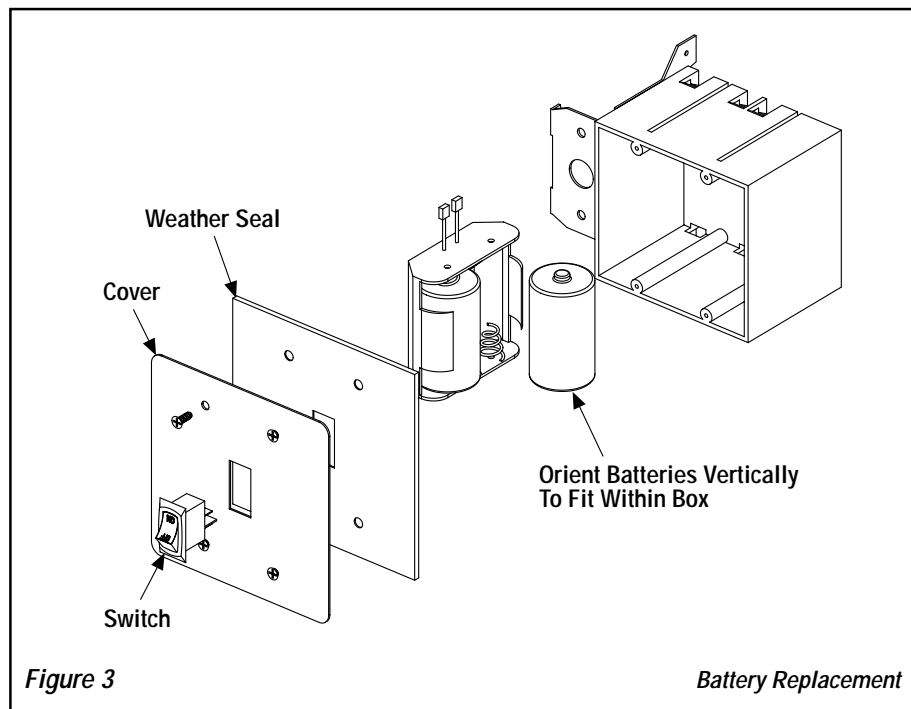

Figure 3
The intermittent ignition system operates on 3 volts provided by two (2) "D" cell batteries. The batteries are located in a pack installed within the J-Box, behind the stainless ON/OFF switch panel. Refer to *Figure 3*.